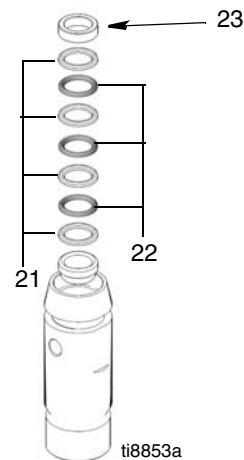

FIG. 8
8. (Fig. 8) Remove throat packings and glands from cylinder. Discard throat packings and glands.